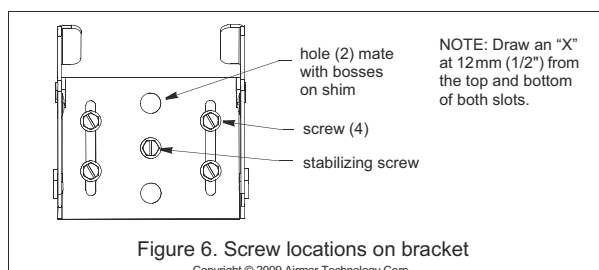

Figure 6. Screw locations on bracket
2. Remove the transducer assembly from the bracket by removing the locking pin and the hinge pin (see Figure 4). Hold the bracket with any shim(s) in place against the transom at the marked location. Draw an "X" at 12mm (1/2") from the top and the bottom of each slot (see Figure 6).
1. Prevent the bracket from moving out of position using the remaining hex-washer-head screw. Drill the hole for the stabilizing screw through the center hole of the bracket, any shim(s), and the hull (see Figure 6).